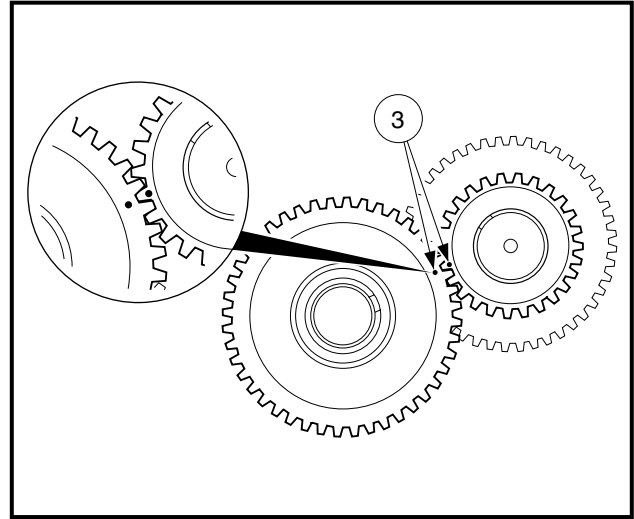

Figure 13-101 Align Timing Marks between Camshaft and Crankshaft
3. Align the timing marks (3) (Figure 13-101, Page 13-47). **See following NOTE.**